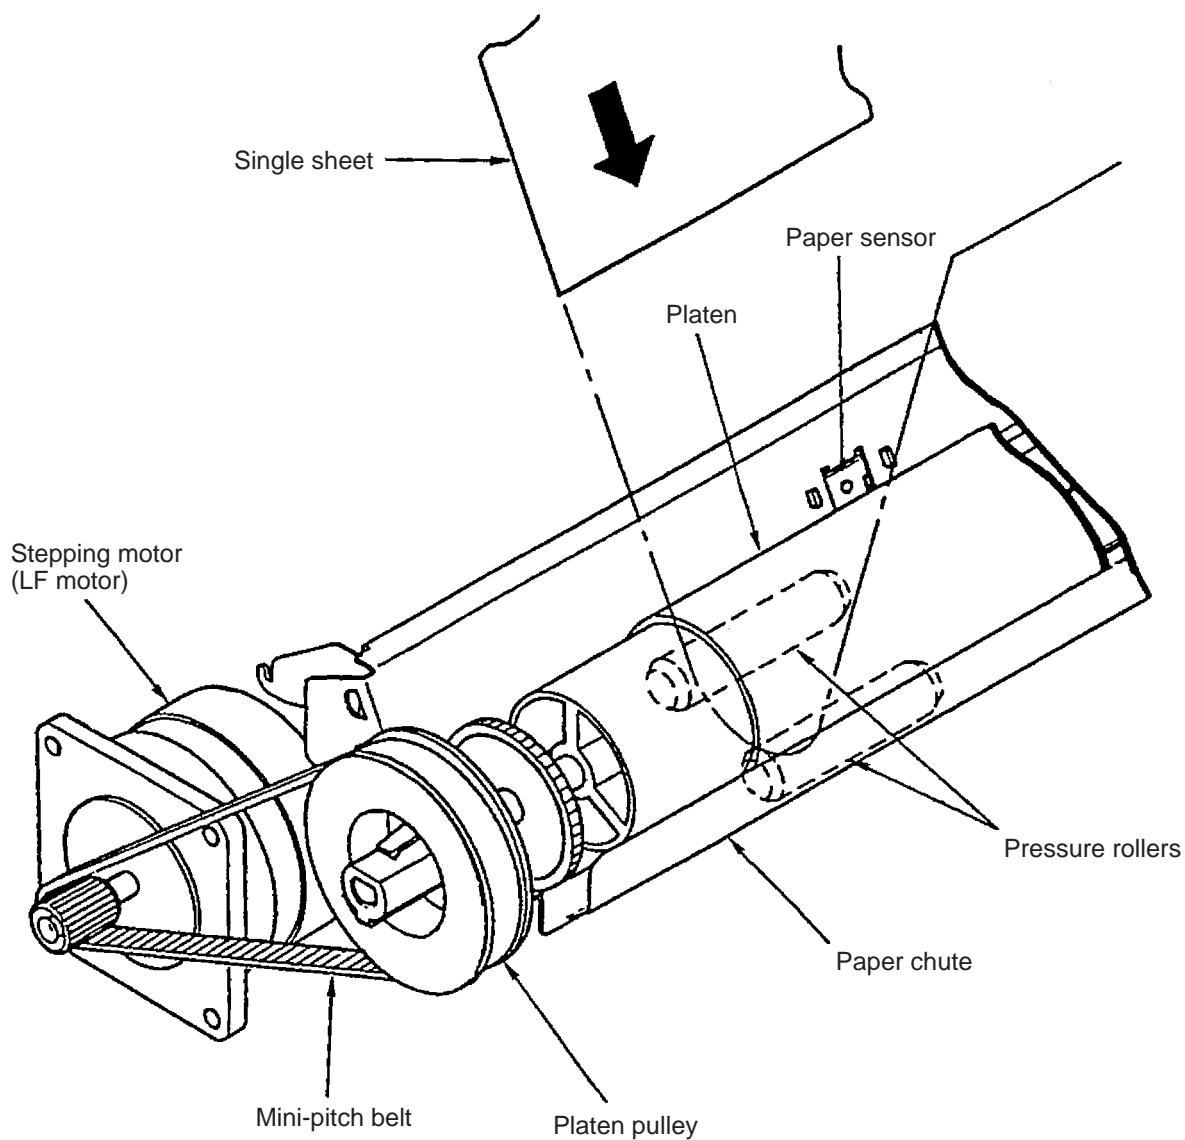

Figure 2-7 Single sheet feeding mechanism
(1) Single sheet feeding mechanism (See Figure 2-7)